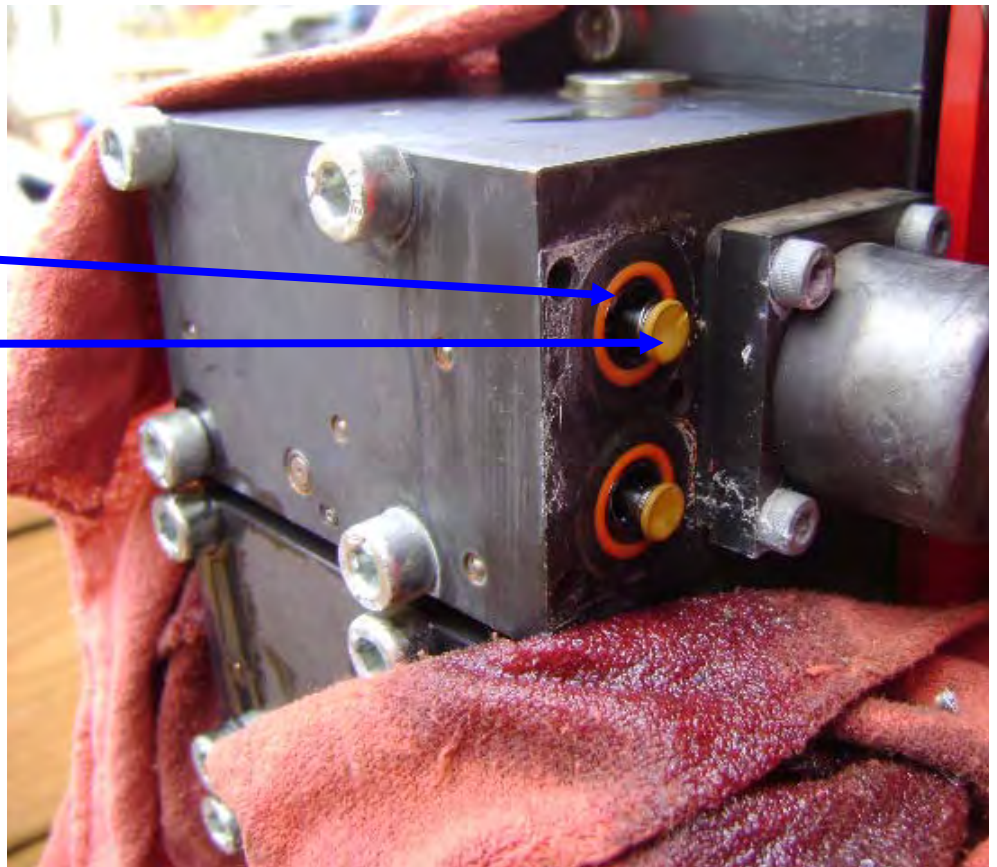

Figure 10
11. Remove the coil and cable. Make sure the o-rings and actuating spools remain inside the valve body (Figure 10).